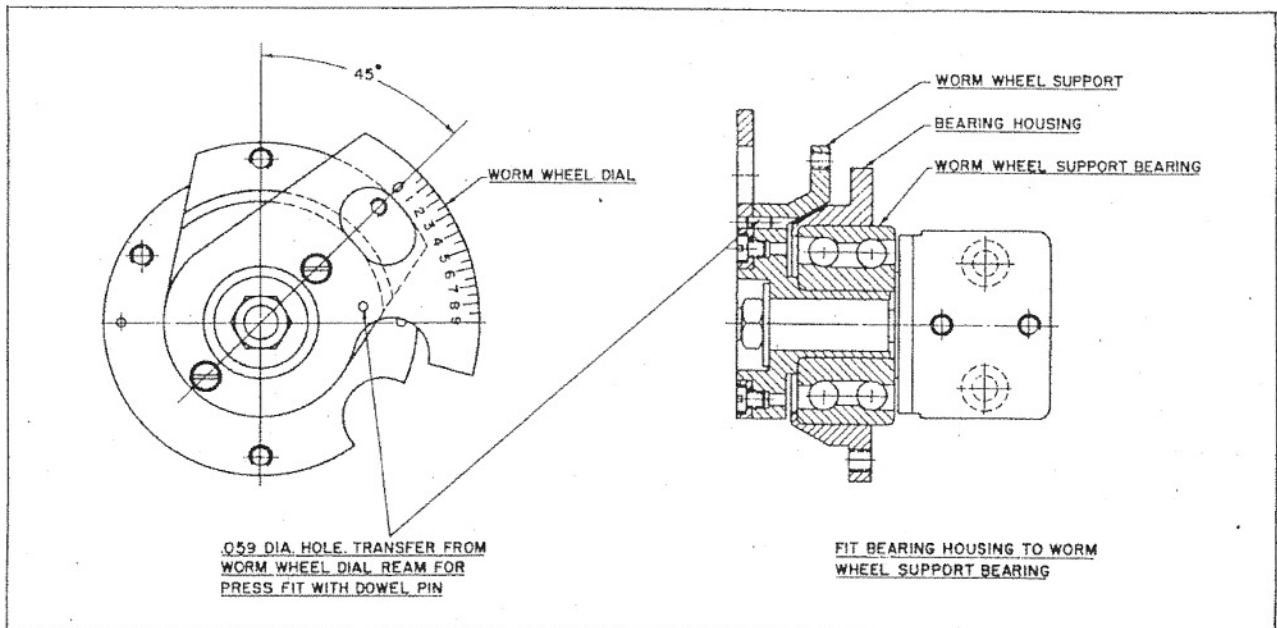

Figure 27 - Sectional View - Worm Wheel Support Assembly Aircraft Sextant - Type A-7 (3003-A, 3003-B)
to be located properly on the worm wheel support. Locate the new dial as shown in figure 27. If the transfer of the .059" diameter hole necessitates enlarging the hole already in the worm wheel support locate another .059" diameter hole on the worm wheel dial and drill it through the worm wheel support. Ream the hole if necessary for a press fit with the dowel pin. If the worm wheel (16) is attached to the worm wheel support (114) care must be taken not to damage the worm wheel teeth when performing this operation.
housing is replaced with a new part, it will have to be fitted to the worm wheel support bearing. It may be necessary to polish the inner surface of the bearing housing so that it has a light push fit with the outer diameter of the worm wheel support bearing. Place the bearing housing in a lathe and polish the inner surface with fine crocus cloth. (Refer to figure 27) In addition to fitting the bearing housing to the worm wheel support bearing, the bearing housing must be doweled to the right side plate. If the two dowel holes in the bearing housing do not match with the holes in the right